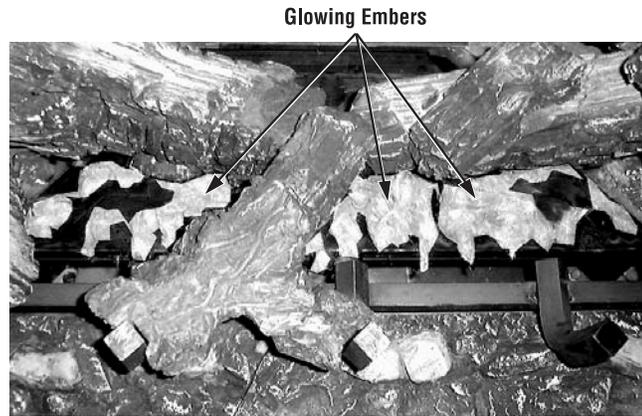

Figure 52
Step 3. Separate the Glowing Ember (Rockwool) into pieces about the size of a quarter (Figure 51). Keep the pieces fluffed up, not matted. Distribute these pieces over the front surface of the burner, as shown in Figure 52. Do not use more than is necessary. When properly positioned, the Glowing Embers will cover approximately 65% of the front burner and with no appreciable gaps or openings. Ensure that the main burner ports remain uncovered by the ember material.
Position the individual logs as shown below. Logs should be placed in the order shown. Position the center log on the burner first, then place the glowing embers as shown in **Figure 52**. Place the rear log, both the right and left, and then the smaller left and right top logs. All logs that have notches to fit over the grate tines should be positioned with these notches directly against the grate. All top logs that rest on lower logs, do so over flattened mounting faces in the bottom logs.